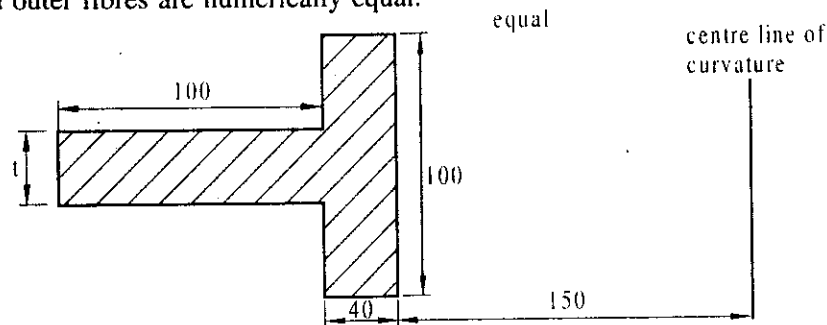

Fig. Q.1 (b)
- b. Determine the value of web thickness 't' in the T – cross section of a curved beam shown in Fig.Q.1(b) such that the normal stresses due to bending at the extreme inner and outer fibres are numerically equal. (15 Marks)